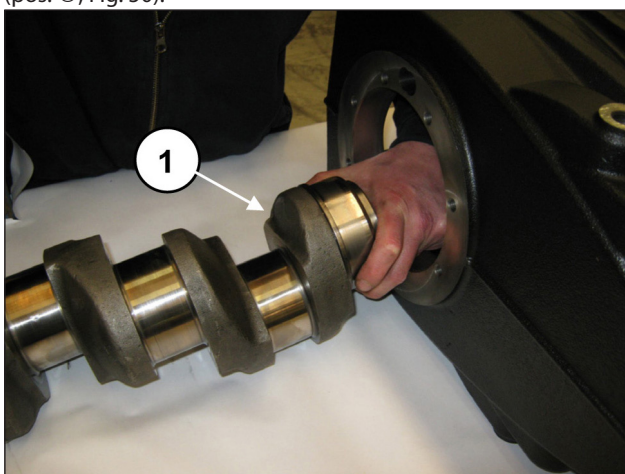
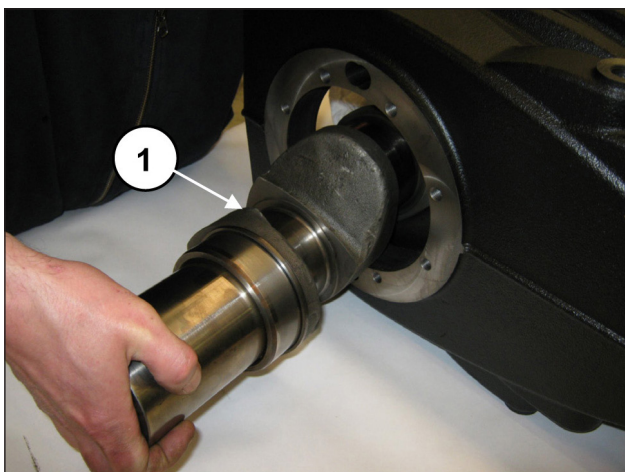

Fig. 49
Fig. 50
Insert the shaft from the PTO side, taking care not to hit the previously assembled conrod shanks (pos. ①, Fig. 49) and (pos. ①, Fig. 50).